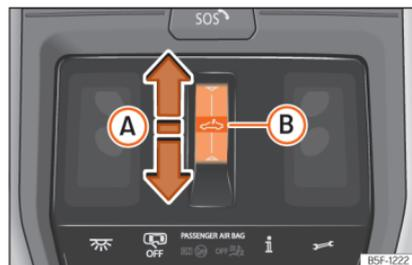

Fig. 99 On the interior roof lining: sunroof button.
- »» Fig. 99 **A**.
»» Fig. 99 ⚠ and keep pressed until the sunroof is fully closed.